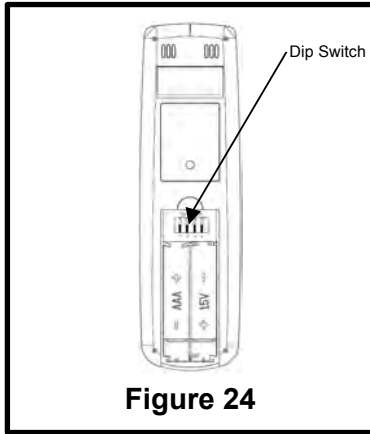

Figure 24
1. On the back of the transmitter, there are 2 code switches. Pick a code and set both code switches to create a code combination (Figure 24) and make note of it. The same code combination will be set in the receiver later.